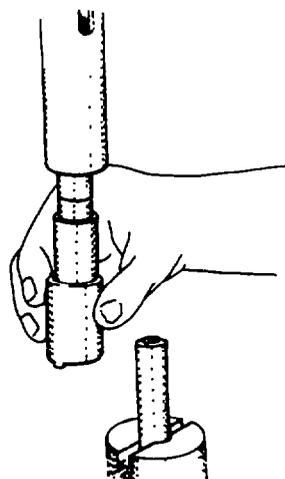

Fig. 32 — Installing Core
5. Install the core in the sleeve (see fig. 32).